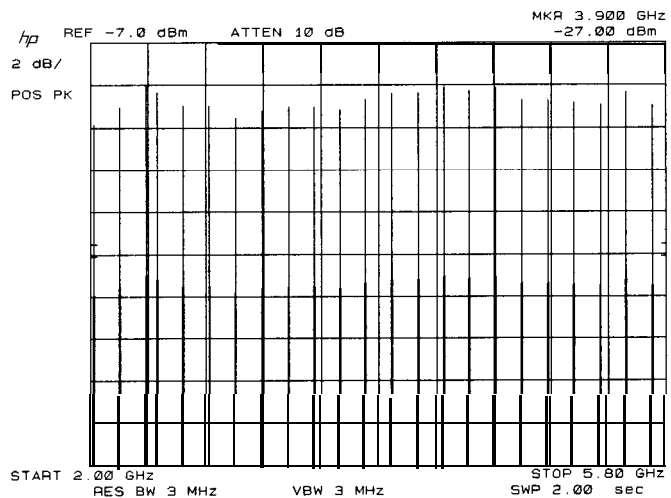

Figure 3-95.
71. On the spectrum analyzer, key in TRACE A [CLEAR-WRITE], [SWEEP TIME] 2s, MARKER (OFF), [HOLD]. As the spectrum analyzer completes each sweep, a series of approximately 22 new responses should be displayed, as shown in Figure 3-95. The peaks of these responses coarsely outline the spectrum analyzer frequency response.